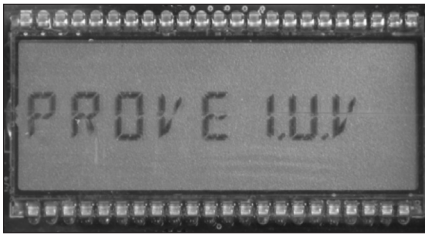

Figure 7 - LCD screen changes to **PROVE I.U.V**
- B. After five seconds, the display will change to **PROVE I.U.V** (Figure 7).